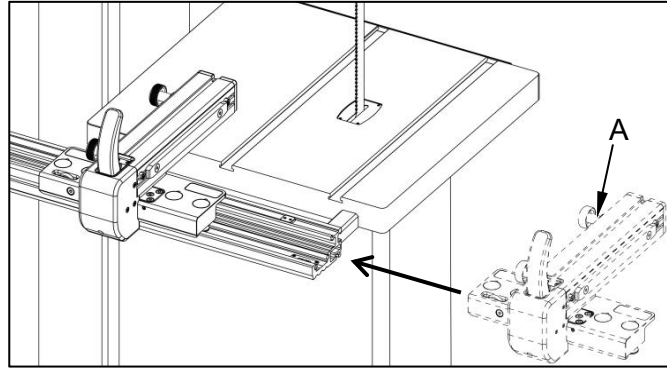

Fig. 15
1. As shown in Fig. 15, slide the Fence Body Assembly (A) onto the Front Rail.